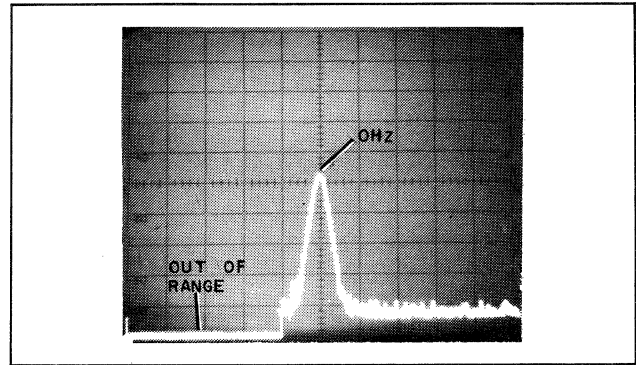

Figure 4-14. Frequency Out Of Range.
4-97. Out of Range Detector. As illustrated in Example 3, certain combinations of FREQUENCY and FREQ SPAN settings cause the voltage at the output of the Dial Mixing Amplifier to go below the 0 V (0 Hz) lower limit or above the + 9 V (50 kHz) upper limit. When either limit is exceeded, the VTO frequency is driven out of range. This could cause erroneous responses to appear on the display. The Frequency Out-of-Range Detector senses when the Dial Mixing Amplifier output is more negative than 0 V or more positive than + 9 V and, in turn, generates an (L)Data flag which is applied to the Digital Storage section. In the Digital Storage section, the (L)Data flag clears the memory locations where the frequency is out of range. As a result, a clean baseline appears on the display (Figure 4-14).